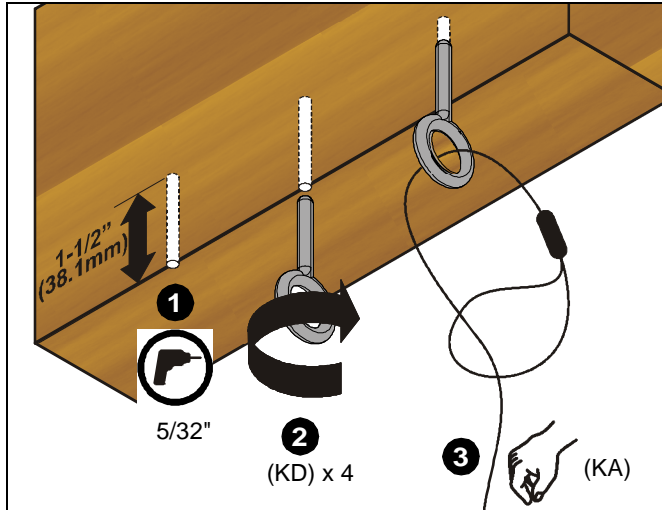

Figure 7
1. Drill a 5/32" diameter x 1-1/2" deep pilot hole at each marked cable anchor support location. Ensure hole is at least 5/8" from nearest wood edge. Remove debris from hole. (See Figure 7)
2. Fully thread eye lag (KD) into each hole. (See Figure 7)
3. Route end of cable (KA) through eye lag (KD) and then through cable loop. Repeat for 3 remaining support locations. (See Figure 7)